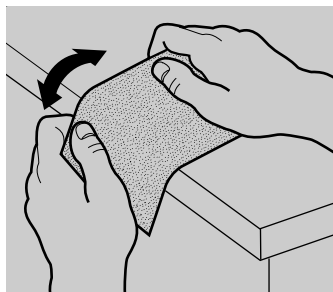

FIG. 1
1. Soften the stiff sandpaper by pulling it over the 90° edge of a table or other straight edge, as shown in Figure 1. Concentrate on softening the edges to be clamped.